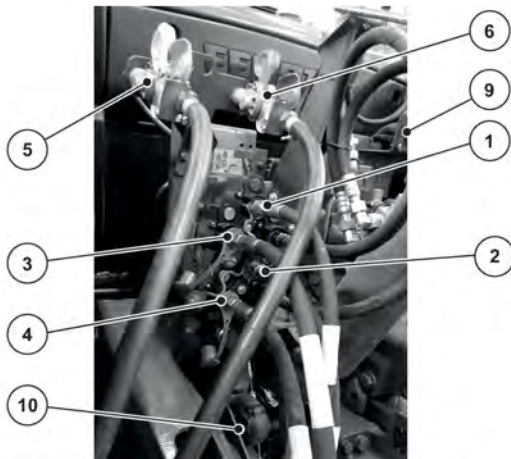

Fig. 25: Order of connecting the machine lines to the tractor
See Fig. 25
- ▶ Observe the connection order: See *Fig. 25 Order of connecting the machine lines to the tractor*